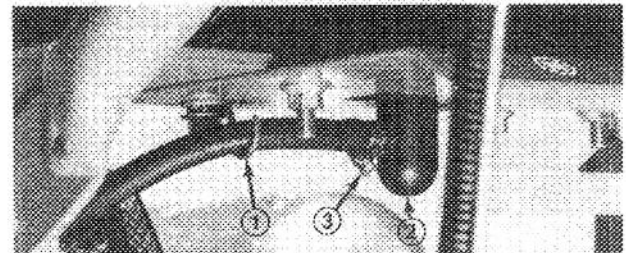

Figure 8
5. Route fuel line thru hose clip and install onto fuel tank fitting with hose clamp (Fig. 8). Hose clip may be rotated to avoid kinking in fuel line.